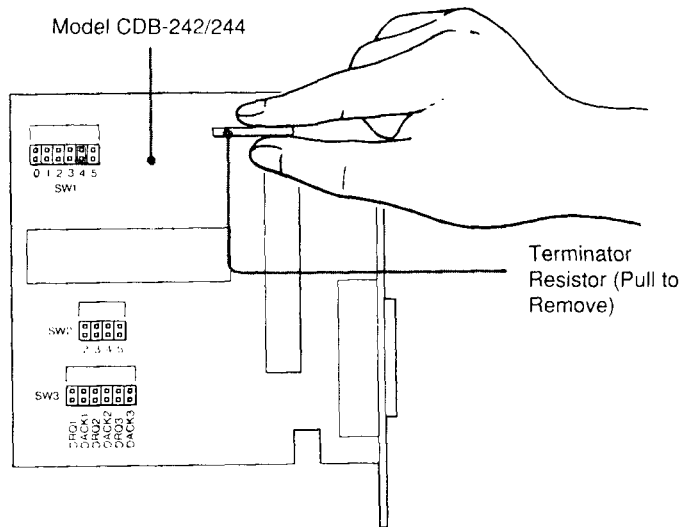

Figure 4-5. Removing the Terminator Resistor From the Card
- 1 Remove the terminator resistor from the Model CDB-242/CDB-244 (see Figure 4-5).